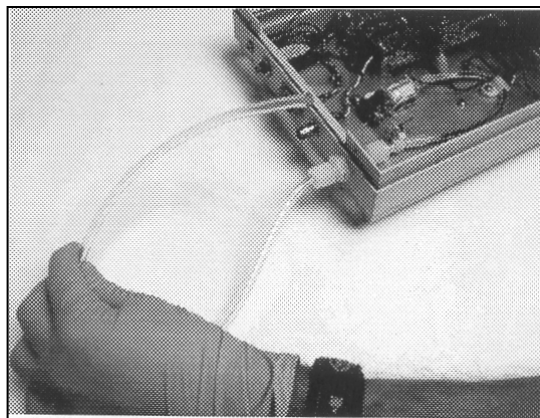

Figure 4-3. Connect Tubing to Inlet of 2B Ozone Analyzer.
- Connect a Teflon or Teflon-lined tube to the ¼" Swagelok air inlet at the back of the instrument (see Figure 4-3).